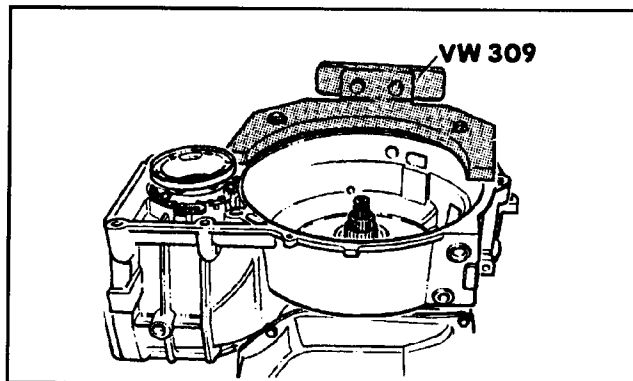

Figure 49
1. Attach the transmission to a transmission repair stand or a suitable work area, assuring that the transmission will not roll over and damage any of the electrical connections or other components (See Figure 49).